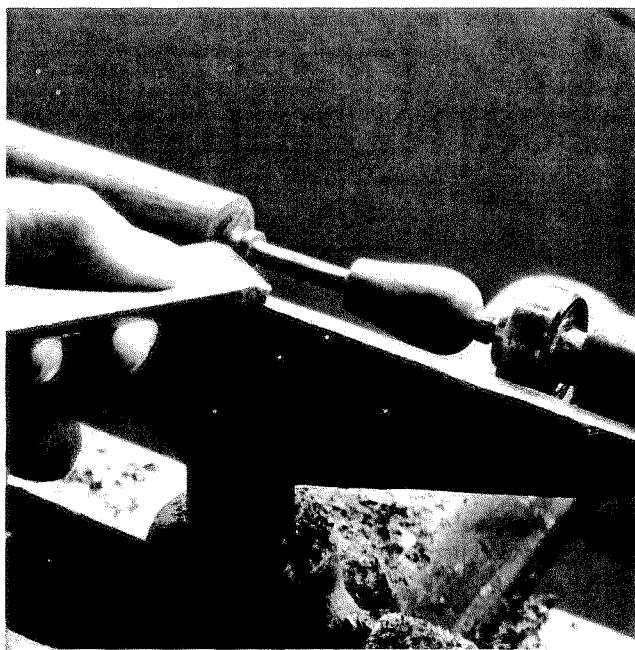

FIGURE 12-8
- 5 Sand the turning and then part off so you have two components: the handle and pivot (Fig 12-8).